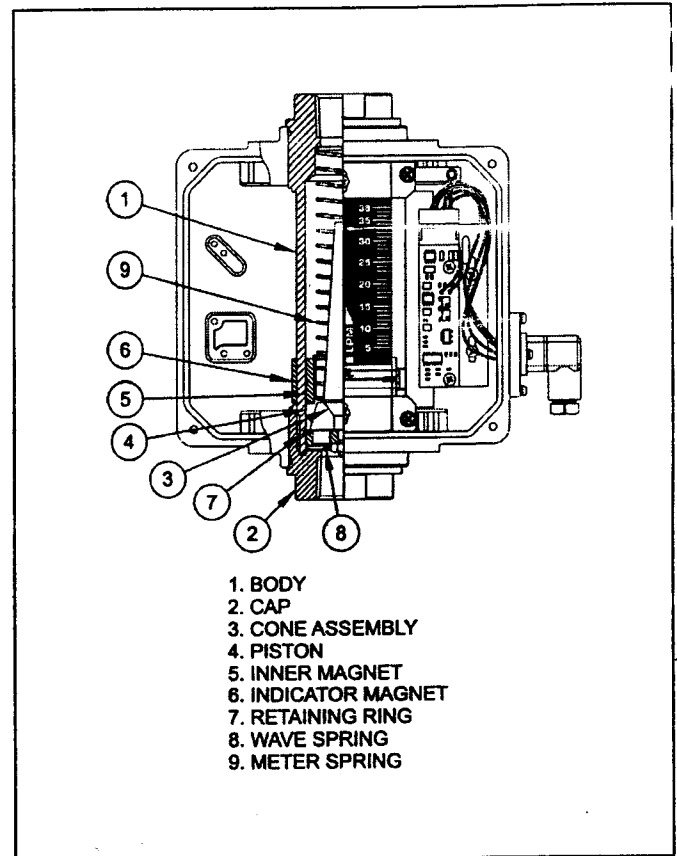

Figure 10. Cartridge Components
4. Remove the inlet port cap, wave spring, retaining ring, and cone assembly from the transmitter body (Figure 10).
6. The piston, inner magnet and transmitter spring are secured within the transmitter body with a retaining ring. Remove the retaining ring with a small screwdriver, then the internal components can be removed from the body (Figure 10).